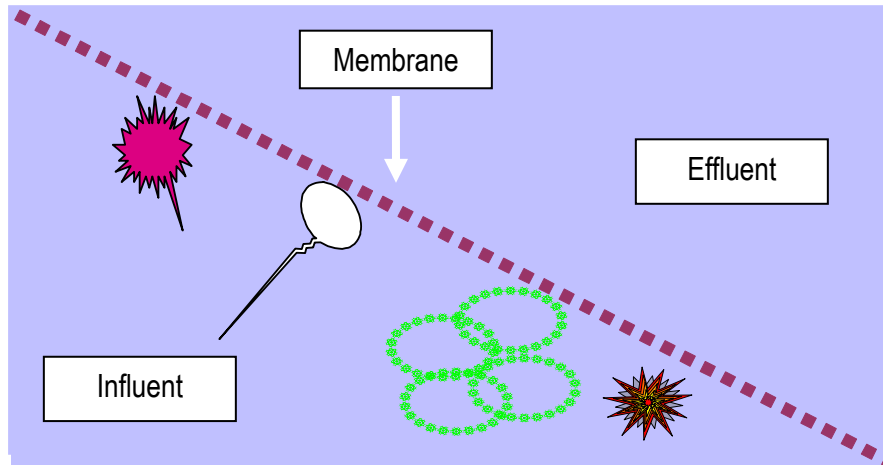

Figure 1.2 Membrane Filtration Mechanism
- This is illustrated in Figure 1.2.